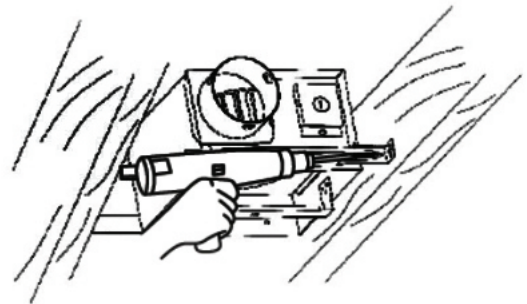

Fig. 2
2. Install the suspension bracket to joists by using long screws (M4x30) and secure it to the fan body by using screw II (M4x10).(Fig.2)